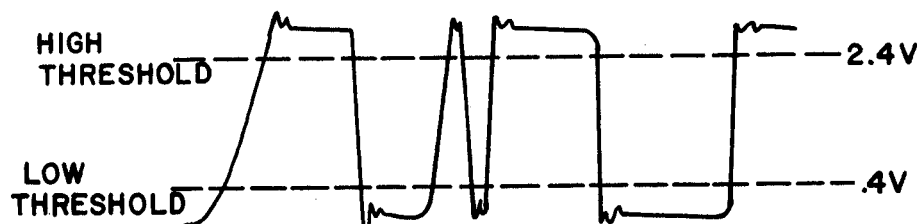

Fig 7-1
Figure 7-1. TTL Signal. In digital electronics, the relative value of signal voltage with respect to the threshold voltages determines the operation of the circuit. A signal above the high threshold is in the high state and whether it is 2.8V or 3.0V is irrelevant to the logical operation of the circuit.
- 7-59. Figure 7-1 shows a typical TTL (Transistor-transistor logic) signal. This might as well be any analog signal when viewed on an oscilloscope. The oscilloscope displays absolute voltage with respect to time, but in digital electronics absolute values are unimportant. A digital
signal exists in one of two or three states--high, low, and undefined or in-between level--each determined by a threshold voltage. It is the relative value of the signal voltage with respect to these thresholds that determines the state of the digital signal and this digital state determines the operation of the IC, not absolute levels. In Figure 7-1 if the signal is greater than 2.4 volts, it is a high state and it is unimportant whether the level is 2.8 or 3.0 volts. Similarly for a low state the voltage must be below .4 volts. It is not important what the absolute level is as long as it is below this threshold. Thus when using an oscilloscope, the troubleshooter must over and over again determine if the signal meets the threshold requirements for the desired digital state.